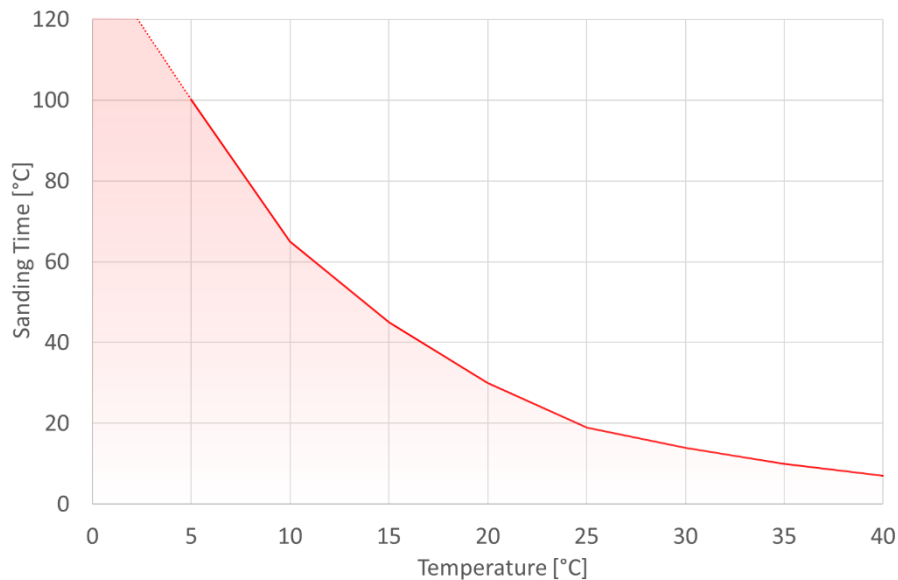

Figure 3 Indication for sanding times of SikaForce®-800RED dependent on temperature
- The sanding time of SikaForce®-800 Series depends on ambient-, substrate- and product temperature (see figure 3 and 4)